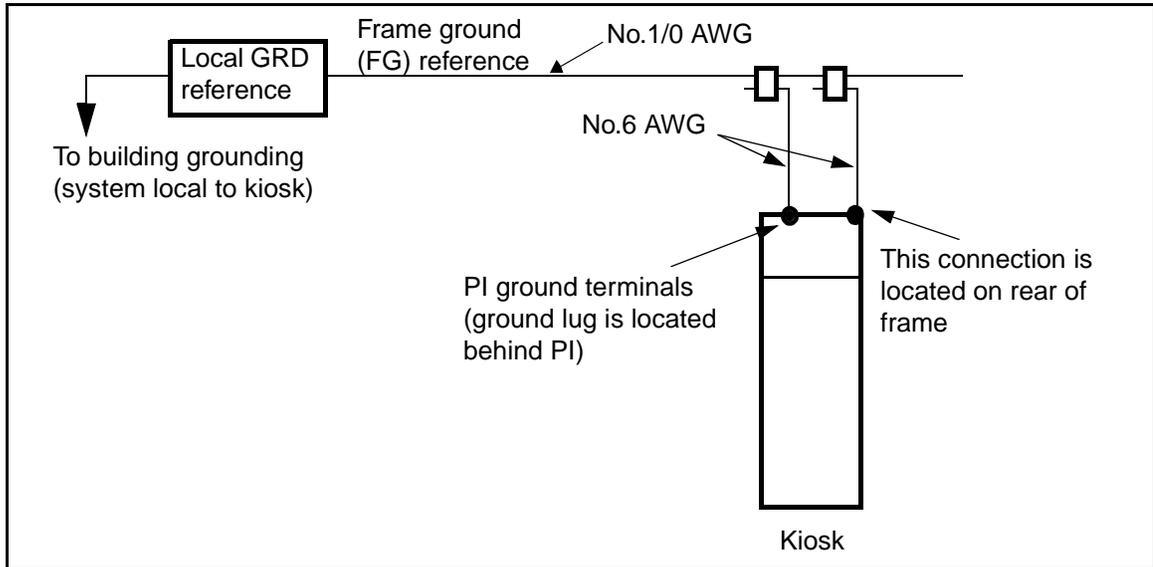
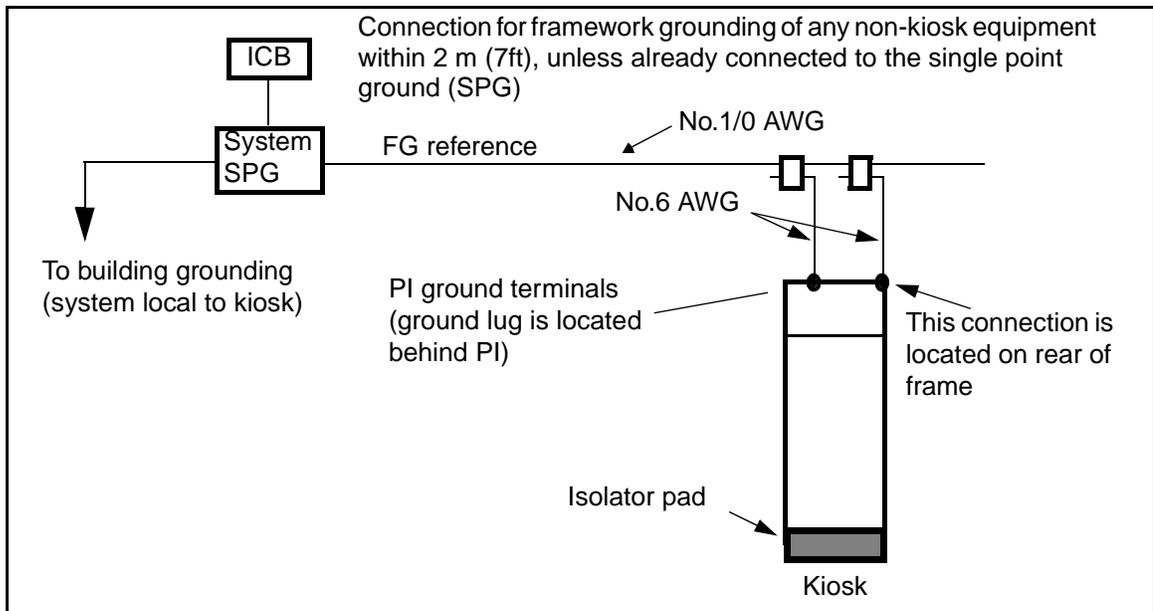
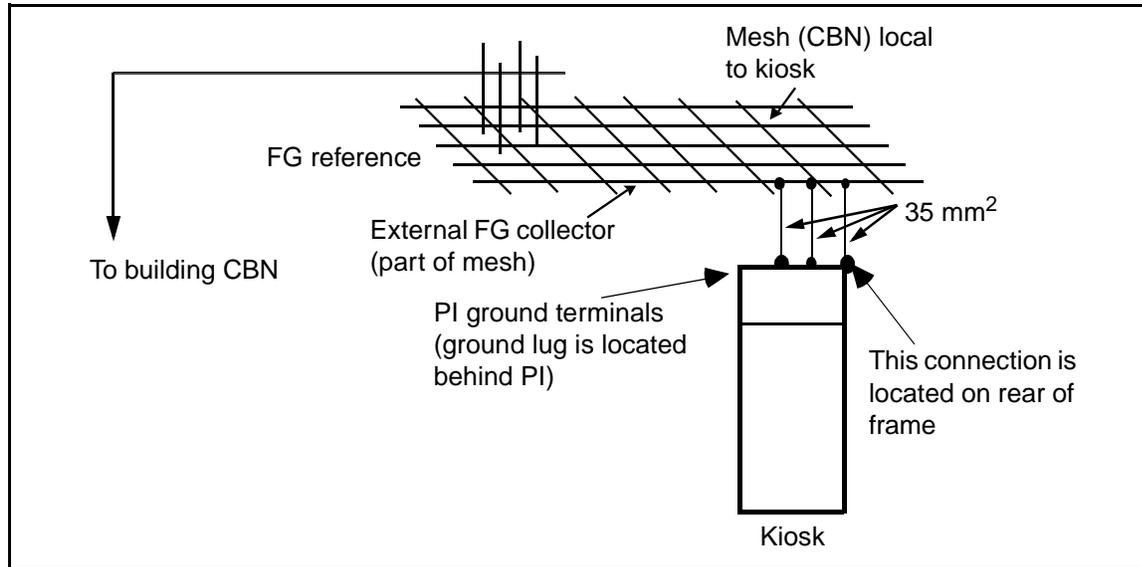

Figure 2.2 - Typical Common Bonding Network (CBN)
Figure 2.3 - Typical Grounding Topology Isolated Bonding Network (IBN)
Figure 2.4 - ETSI (Mesh-BN) Bonding Network
Three types of grounding topologies are discussed in this section. Common Bonding Network (CBN) (Figure 2.2) and Isolated Bonding Network (IBN) (Figure 2.3) are typically found in North America. These are similar topologies, the major difference being that the IBN topology is isolated from the floor. ETSI (Mesh-BN) Bonding Network (Figure 2.4) topologies are commonly used elsewhere. For all topologies, the -48V source must be reliably connected to earth and must be electrically isolated from any AC source.
2. C-tap No.6 AWG (13mm²) frame ground cable from each of the kiosks to the No.1/0 AWG (50mm²) frame ground which goes to the local ground reference, ensuring there are no sharp bends in the cable, and connect the end to the No.1/0 AWG (50mm²). Refer to Figure 2.2 on page 2 - 6.
2. C-tap No.6 AWG (13mm²) frame ground cable from each of the kiosks to the No.1/0 AWG (50mm²) frame ground which goes to the single point ground, ensuring there are no sharp bends in the cable, and connect the end to the No.1/0 AWG (50mm²). Refer to Figure 2.3 on page 2 - 6.
1. Connect 35mm² frame ground cable from each of the kiosks to the local mesh which is connected to the building common bonding network also connect ground cable to terminal strip on rear of PI labeled frame ground, ensuring there are no sharp bends in the cable, and connect the end to the local Mesh. See Figure 2.4 on page 2 - 7.
- 2. C-tap No.6 AWG (13mm²) frame ground cable from each of the kiosks to the No.1/0 AWG (50mm²) frame ground which goes to the single point ground (SPG), ensuring there are no sharp bends in the cable, and connect the end to the No.1/0 AWG (50mm²). Refer to Figure 2.3 on page 2 - 6.